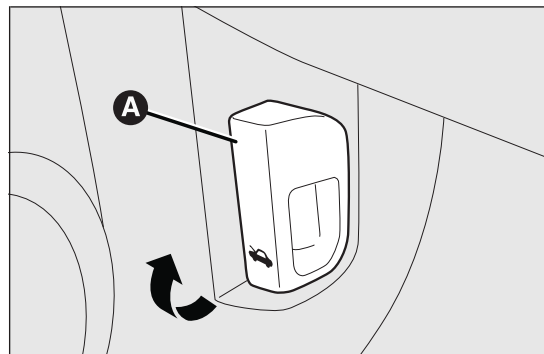

fig. 83
- ☐ pull lever A fig. 83 in the direction indicated by the arrow;